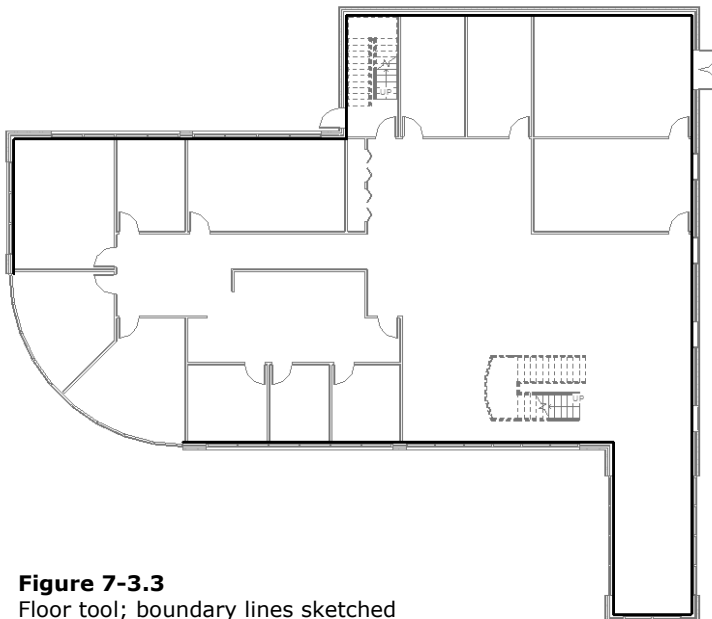

Figure 7-3.3
8. Select the interior side of each exterior wall, with the exception of the curtain wall (do not select it yet). See Figure 7-3.3.